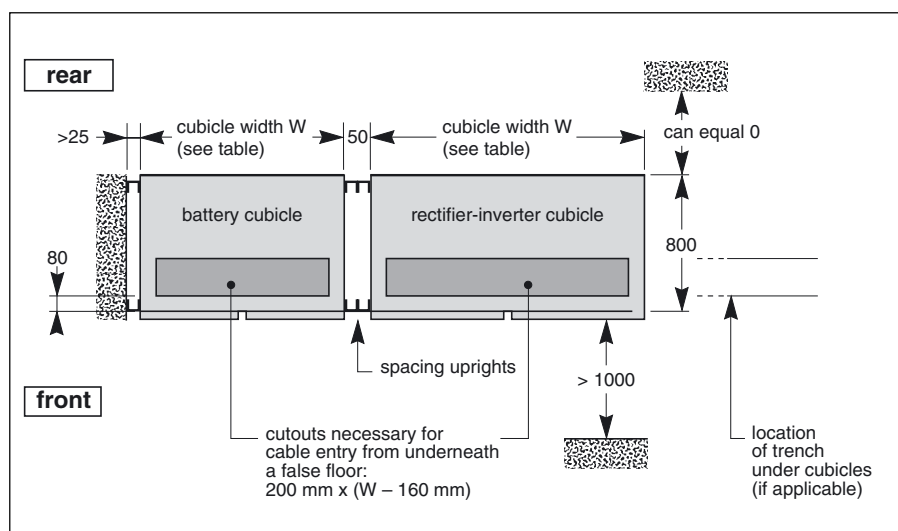

Fig. 6
## Cubicle layout on false floor or normal floor (figures 6, 7, 8)
- in a cable trench running underneath the front of the cubicles (see trench dimensions and layout in figure 6),
A cutout must in this case be made in the floor for cable entry (see figure 6 for dimensions),